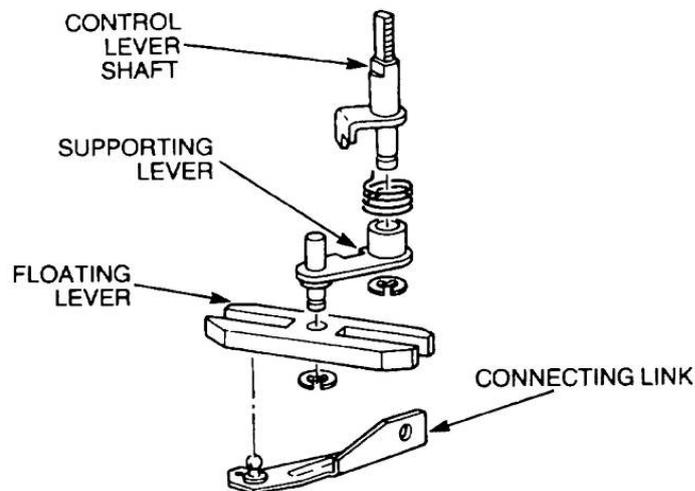

Figure 107 Control Lever Shaft Assembly and Connecting Link
- h.** Inspect the control lever shaft assembly and the control rack connecting link for damage or wear (Figure 107). Replace any part showing excessive wear.